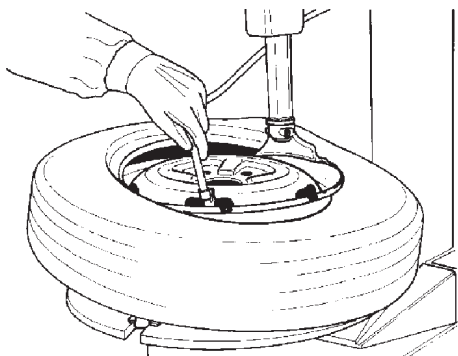

Fig.5.1-3
**D.** Mount the first bead as described in section 4.2.B. Put the tube inside the tire and connect the inflation air line to the tube valve to hold the tube in place. (Fig.5.1-3). Mount the top bead following the directions above.